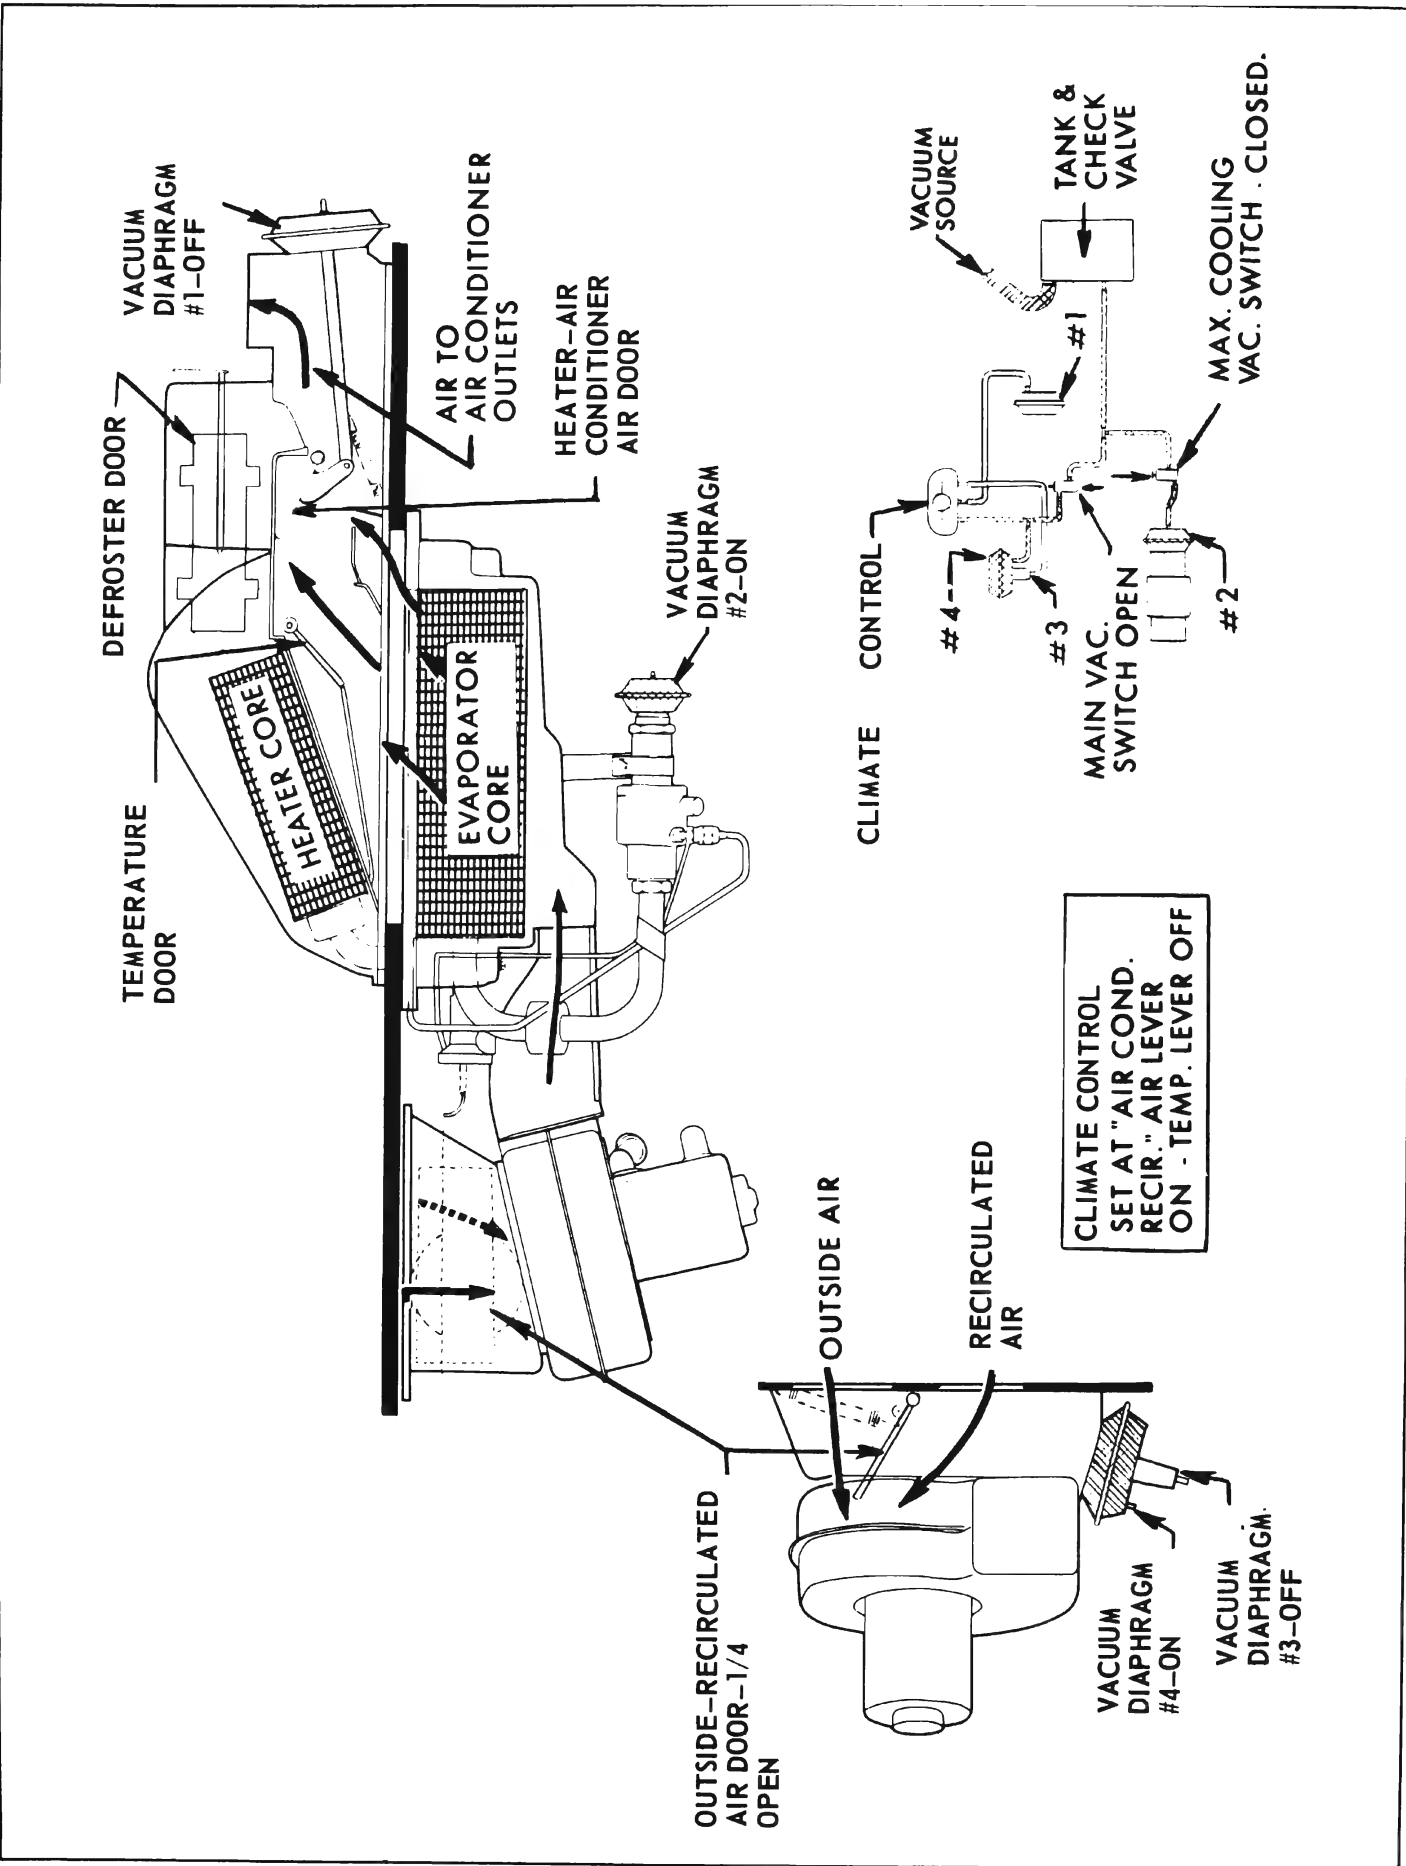

Figure 11-77—Air Conditioner Maximum, Heater Off - 4400, 4600 and 4800 Series
4. Air Conditioner Normal, Heater Off or On - The climate control is set at AIR COND NORMAL and the AIR lever is pushed on. The outside-recirculated air door is full open as vacuum is present at #3 and #4 vacuum diaphragm. See Figure 11-77. The compressor clutch is engaged and the blower is set on low-low blower speed when the AIR lever is in the first detent from off. Further movement of the AIR lever increases blower speed to low, medium and high. The suction throttle valve is set at maximum cooling as vacuum is present at its vacuum diaphragm.
- The Climate Control is set at AIR COND RECIR, Air lever full on and the TEMP lever off. The outside-recirculated air door is set at the one-fourth open position by having vacuum applied only to the #4 section of the dual stage vacuum diaphragm. See Figure 11-77. This allows 1/4 outside air and 3/4 recirculated air to mix and be directed to the evaporator. With TEMP lever off, the suction throttle valve is set at maximum cooling and no air is directed through the heater core.